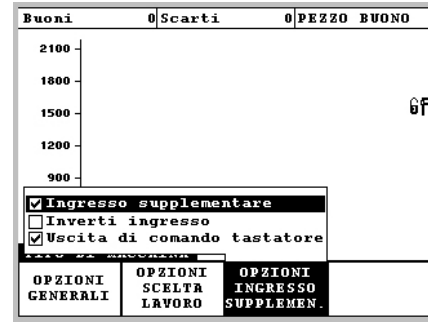

Figure 43
- OPTIONS ENTRÉE SUPPLÉMENTAIRE (Figure 43).